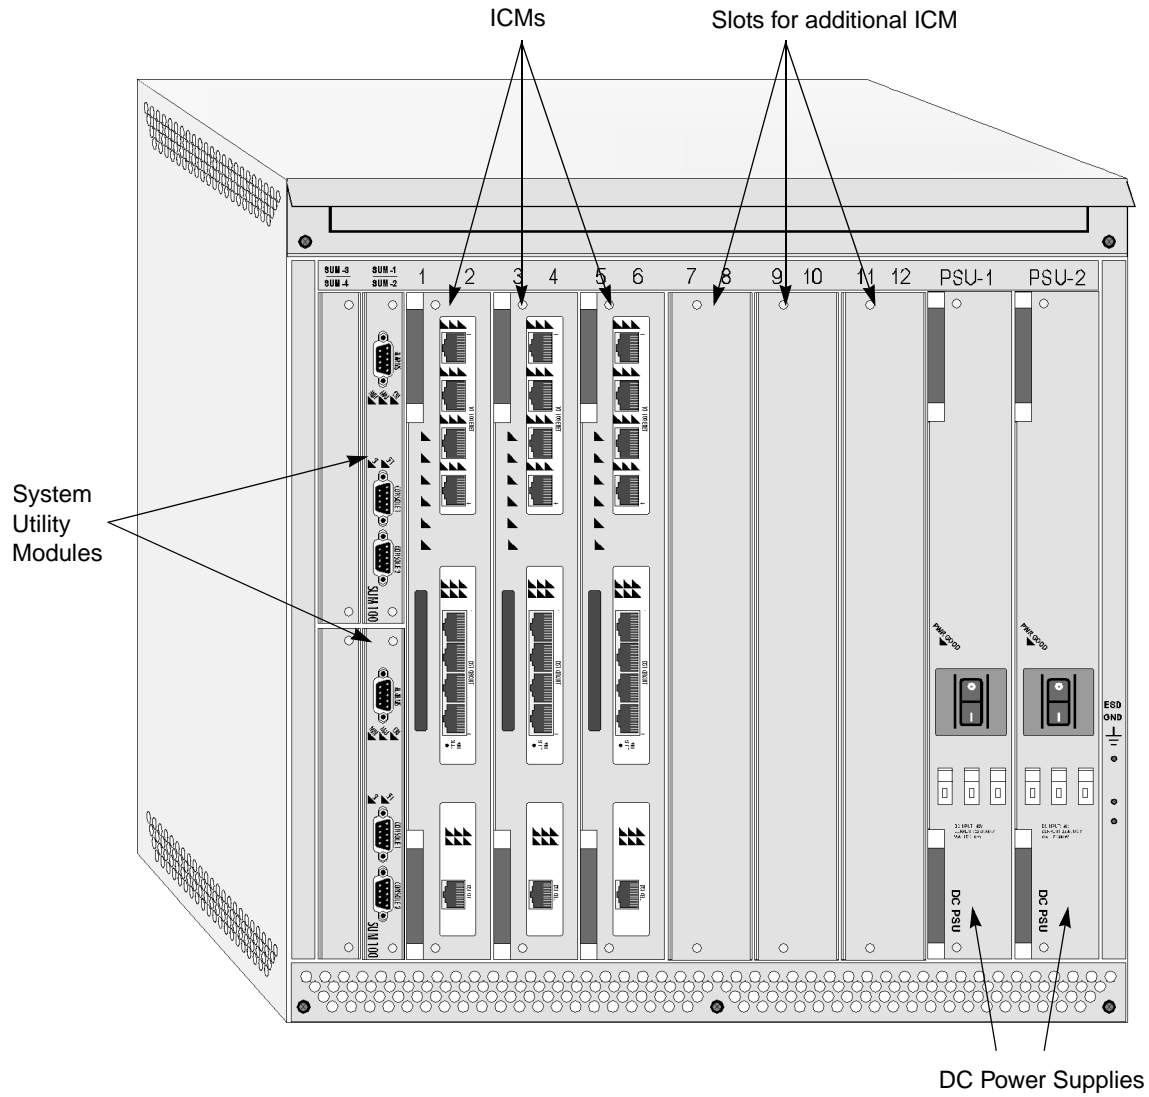

Figure 3-5. SA 1200 Typical Hardware Configuration
- The correct number of power supplies (1 or 2) are installed. **Figure 3-5** illustrates how DC power connections appear.